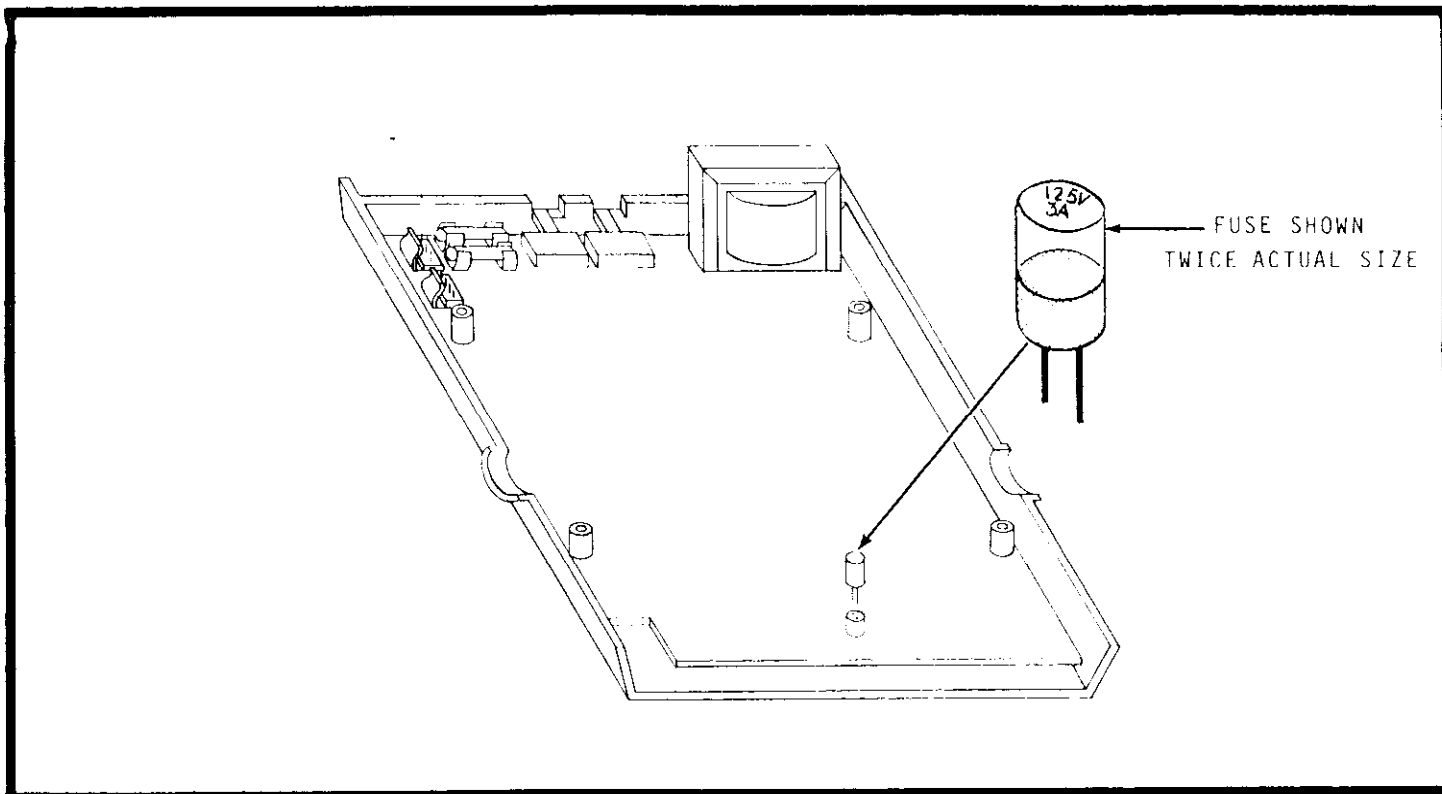

FIGURE 11. Location of Protection Fuse.
2. How to Replace Current Fuse. The current fuse (F101) is located on the printed circuit board PC-349 and is installed in a socket. The fuse is accessible by removing the top cover. See Figure 11. An accessory fuse is furnished with each instrument. Fuse rating is 3 amperes.